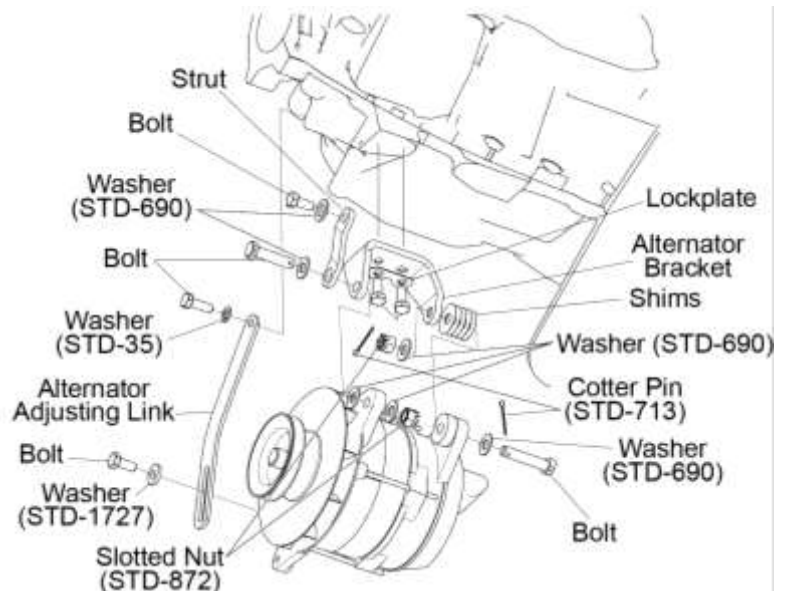
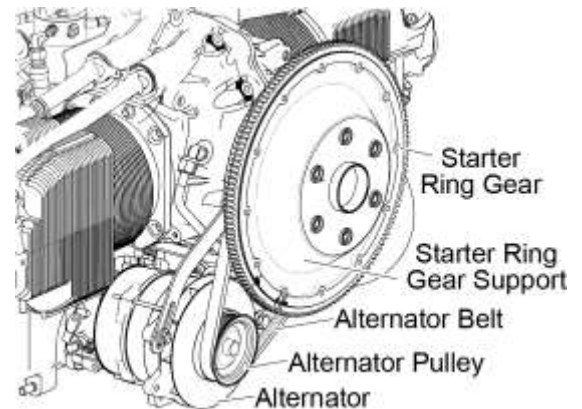

Figure 5
Figure 6
- (2) Loosen the bolt that attaches the alternator adjusting link to the alternator (Figure 5).
- (3) Loosen the bolt that attaches the alternator adjusting link to the crankcase.
- (4) Rotate the alternator on the bracket to adjust the alternator belt tension.
- (5) Torque the two bolts on the alternator adjusting link to 17 ft.-lb. (23 Nm).
- (6) Torque the idler pulley nut to 75 ft.-lb. (101 Nm).
- (7) Complete the “Alternator Belt Tension Check/Adjustment” procedure per the applicable method in this chapter.
- (2) Remove the two bolts and two different washers (STD-1727 and STD-35) from the alternator adjusting link (Figure 5).
- (3) Remove the alternator adjusting link.
- (4) Remove the two cotter pins (STD-713), two bolts, two slotted nuts, shims and three washers from the alternator bracket, strut, and alternator (Figure 5). Discard the cotter pins and slotted nuts.
- (5) Remove the alternator and alternator belt.
- (1) Remove the two bolts and lockplate from the alternator bracket (Figure 5).
- (2) Remove the two bolts and washer (STD-690) from the strut and alternator bracket.
- (3) Remove the strut and alternator bracket.
- (1) Mount the alternator bracket on the engine.
- (2) Install the lockplate with two bolts and washers on the alternator bracket (Figure 5). Torque the bolts to 17 ft.-lb. (23 Nm).
- (3) Bend the tabs of the lockplate against the bolts.
- (4) Attach the strut to the alternator bracket with the two bolts and washers. Torque the bolts in accordance with the latest revision of the *Service Table of Limits SSP - 1776*.
- (1) Mount the alternator on the alternator bracket (Figure 5).
- (2) Install the bolt, two new slotted nuts, shims (as many as necessary) and three washers on the alternator bracket and alternator as shown in Figure 5. Install a new cotter pin (STD-713) in each new slotted nut.
- (3) Install the alternator adjusting link with the two bolts and different washers (STD-1727 and STD-35) where shown in Figure 5.
- (4) Examine the alternator belt per “Alternator Belt Inspection” in this chapter.
- (5) Install the alternator belt on the alternator per the “Alternator Belt Installation” procedure in this chapter.
- (3) Loosen the bolt that attaches the alternator adjusting link to the crankcase (Figure 5).
- (4) Rotate the alternator on the bracket towards the starter ring gear.
- (5) Remove the alternator belt from the alternator pulley and the starter ring gear (Figure 6).
- (1) Install the alternator belt in the alternator belt groove on the starter ring gear support.
- (2) Install the alternator belt in the groove on the alternator pulley (Figure 6).
- (3) Adjust the alternator belt tension. Refer to the “Alternator Belt Tension Check/Adjustment” procedure in this chapter.
- (4) Torque the bolts that attach the alternator adjusting link to the alternator and to the crankcase to (Figure 5) to 17 ft.-lb. (23 Nm).